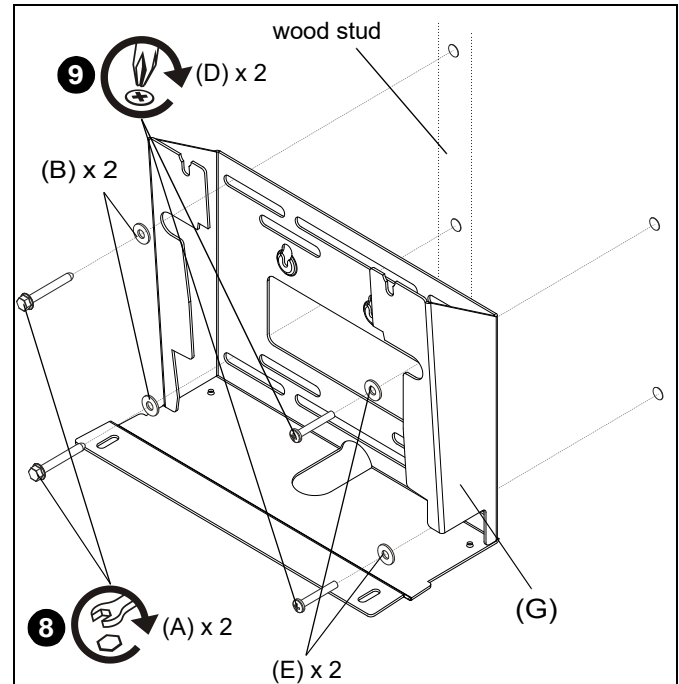

Figure 10
8. Use two 5/16 x 2 1/2" hex head lag screws (A) and 5/16" washers (B) to secure kiosk bracket (G) to wall over wood stud. (See Figure 10)
9. Use two 1/4-20 x 1 3/4" Phillips pan machine (D) screws and 1/4" washer (E) to secure kiosk bracket (G) to wall on drywall location. (See Figure 10)